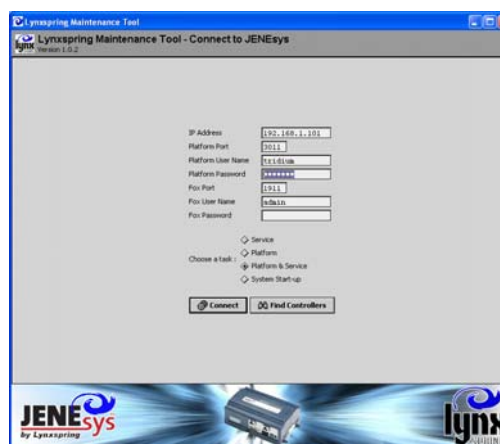

Figure 3
19. With a controller selected, a password screen will appear (Figure 3). Enter the following items where appropriate: